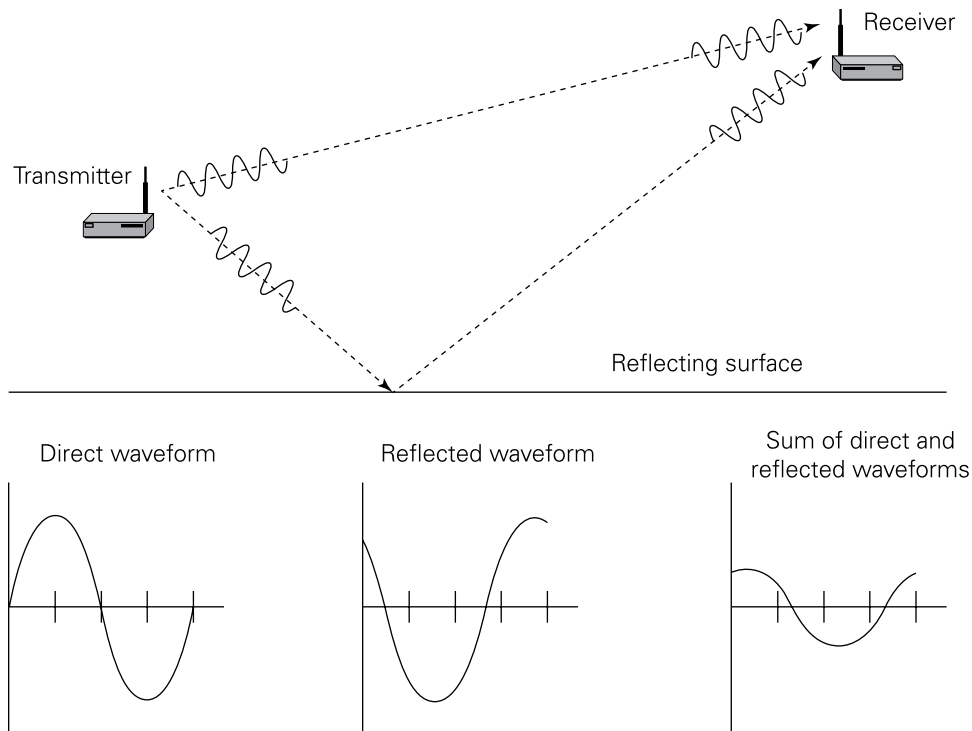

FIGURE 7-15: Multipath interference
Microwaves are electromagnetic radiation, and may be reflected as they travel from transmitter to receiver. Wi-Fi signals bounce off walls, floors, ceilings and large objects, especially objects made of metal. This causes multiple wavefronts to arrive at the receiver along paths of different lengths, and thus at (very) slightly different times. If two or more wavefronts arrive precisely “in phase” they can theoretically boost signal strength at the receive antenna. However, in virtually all cases, the many wavefronts interfere with one another in unpredictable ways, causing *fading*. Even worse, multipath fading effects can be strongly frequency-dependent, causing not just fading but distortion of wideband signals. Figure 7-15 illustrates multipath interference.
- Time-delayed reflections of signals (multipath interference; refer to Figure 7-15)